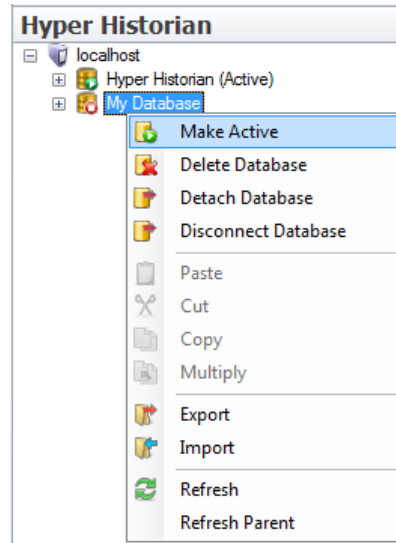

Figure L2.4 - Set Active Database
2. Right click on the **icTonics_Historian** database in the project explorer tree and select **Make Active** from the drop-down menu, as shown in Figure L2.4.